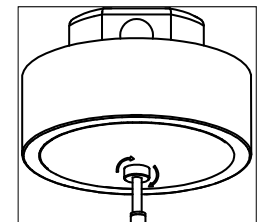

Figure 5: Canopy Mounting
7. Reattached canopy cover by turning lock screw clockwise while pressing canopy cover firmly to base [Figure 5].